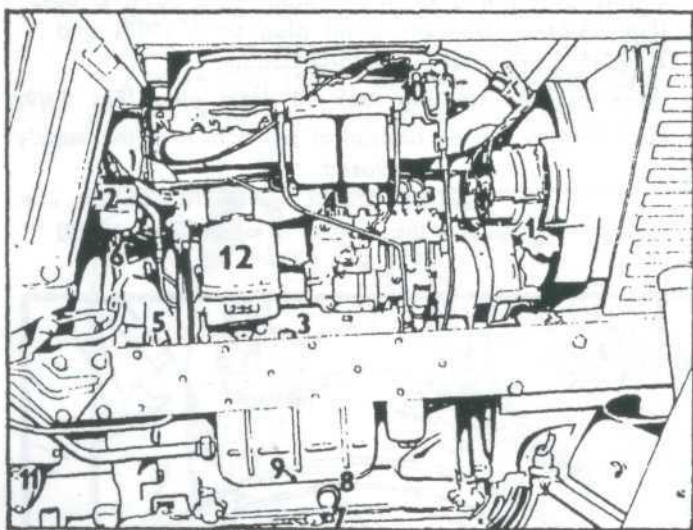

Fig. 13
- Engine oil filling plug (Fig. 13/1)
- Brake fluid tank filling plug (Fig. 13/2)
- Power-assisted oil tank filling plug (Fig. 13/3)
- Injection pump and governor oil filling plug (Fig. 13/4)
- Engine oil level indicator (Fig. 13/5)
- Engine block cooling liquid drain plug (Fig. 13/6)
- Engine pan (tank) water drain plug (Fig. 13/7 - Z 8011).
- Engine pan (tank) oil drain plug — Z 8011, Z 8045 (Fig. 13/8) — Oil tank drain plug on Z 12011 and Z 12045 is provided in the tank bottom.
- Power-assisted steering tank oil drain plug (Fig. 13/9)
- upward or downward position, i. e. the supply is open (Fig. 13/10)